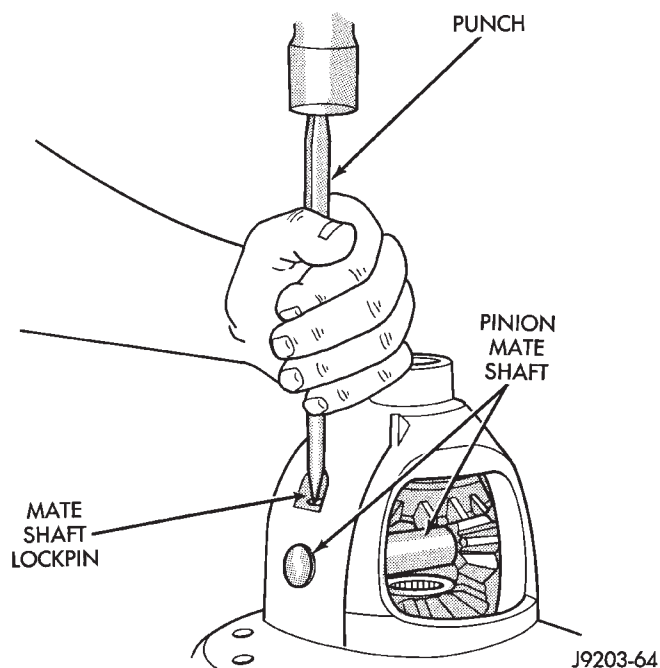

Fig. 53 Mate Shaft Roll Pin Installation
- (1) Install the differential side gears and thrust washers.
- (2) Install the pinion mate gears and thrust washers.
- (3) Install the pinion gear mate shaft. Align the roll pin holes in shaft and the differential case.
- (4) Install the roll pin to hold the pinion mate shaft in the differential case (Fig. 53).
- (5) Install the ring gear.
- (6) Lubricate all differential components with hypoid gear lubricant.